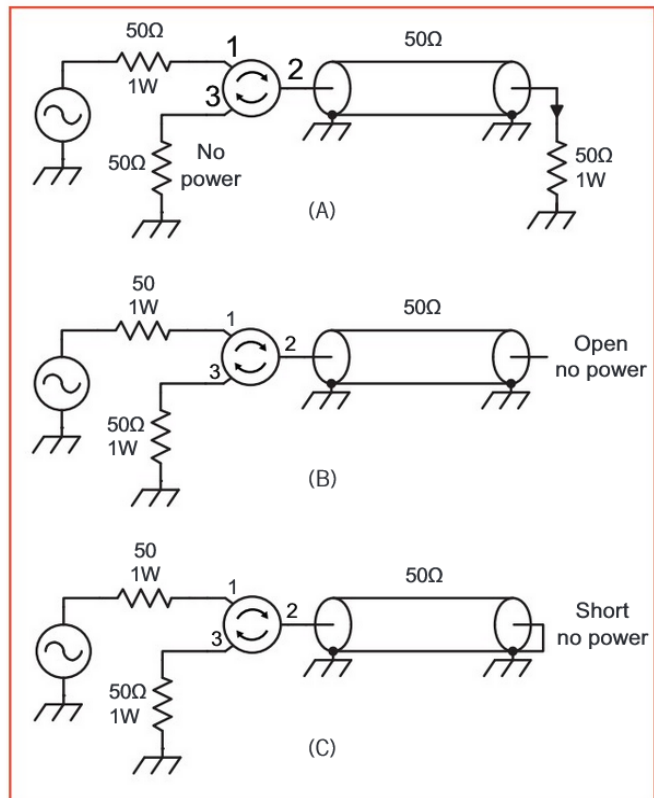

FIGURE 2: Effects of three-port circulators.
devices have three ports, labelled 1, 2, and 3, which enable RF signals to be coupled from 1 to 2, or 2 to 3, or 3 to 1, with low loss as shown by the arrows in Figure 2, but isolate couplings between 1 and 3, or 2 and 1, or 3 and 2. For this discussion it is only important to see that it is possible to make a system such as shown in Figure 2 where the forward and reverse signals on the transmission line can be separated from each other and, as far as the theory is concerned, the open circuit and short circuit cases are equivalent to each other except for the relative phases of the reflected signals. Figure 2(A) shows the case in which 1W of power is delivered by the signal generator (connected to port 1 of the circulator) and this is sent down the line (attached to port 2) and is dissipated in the 50Ω load at the right-hand end. There is no reflected wave – the line is matched – so there is no power dissipated in the 50Ω load connected to port 3. Figure 2(B) shows what happens when the right-hand end of the line is open circuit. Now all the power in the wave is reflected at the right-hand end of the line back down the line towards port 2 of the circulator, and is dissipated in the load connected to port 3. Figure 2(C) shows the same thing happening with the right-hand end of the line short circuited.
The discussions around Figure 1, Figure 2, and Figure 3 are really showing the same thing in different ways. If you understand one of them, the other two are just helping to expose the significance of what you already know.